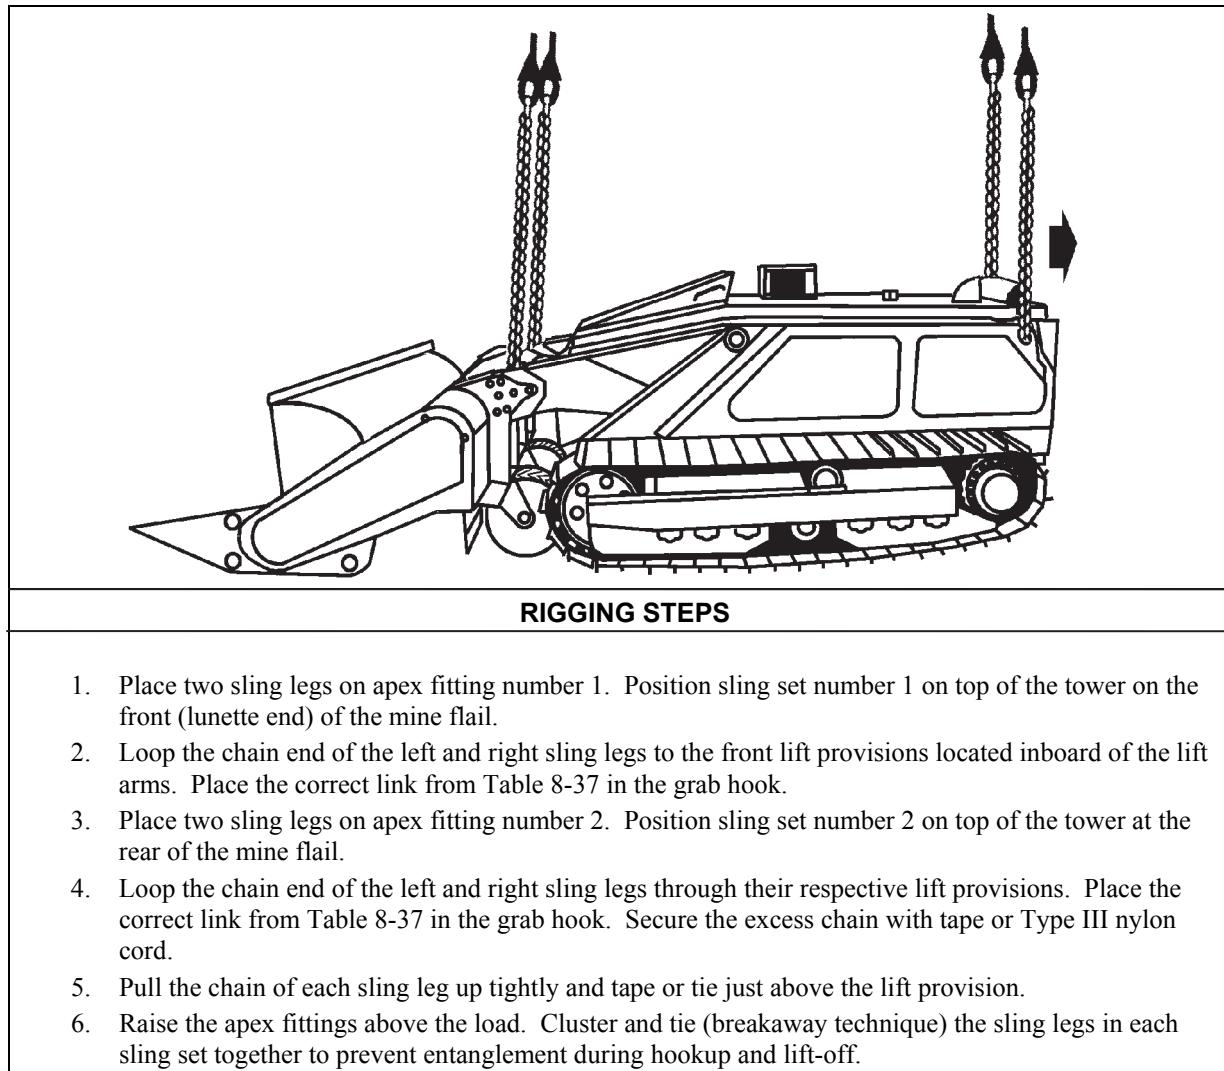

Figure 8-37. M4 Robotic Mine Flail
- **Rigging.** Rig the load according to the steps in Figure 8-37.